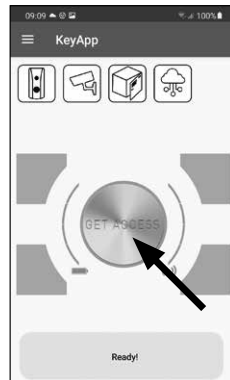

Fig. 81
- 1 Open the secuENTRY KeyApp and press the "GET ACCESS" button in the middle (Fig. 81).